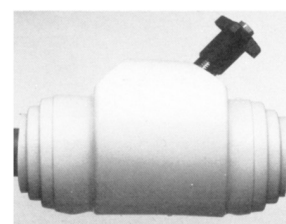

Fig. 4
3. Slide 2-Piece outer shell over insulation snugly and then use fastening tacks on top and bottom to secure shell as shown in fig. 4.